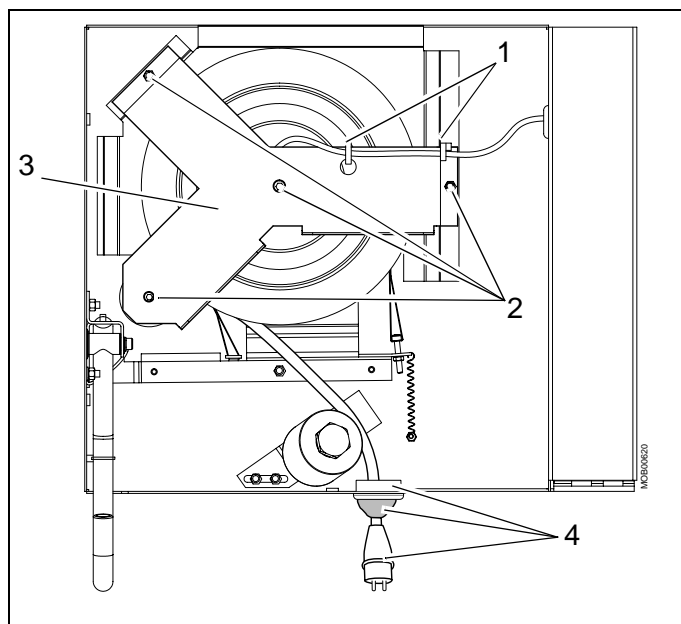

Fig. 4
- Remove the two cable ties (pos. 1 / Fig. 4).
- Remove four screws and four nuts (pos. 2 / Fig. 4) and Y-plate (pos. 3 / Fig. 4).